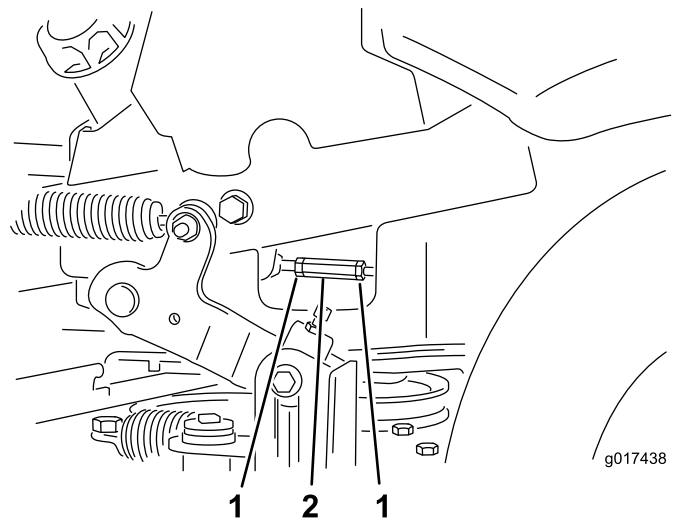

Figure 64
16. Adjust the pump-control rods by loosening the 2 jam nuts and rotating the adjustment nut in the appropriate direction until the wheels slightly creep in reverse (Figure 64).
18. Tighten the 2 jam nuts against the adjustment nut (Figure 64).